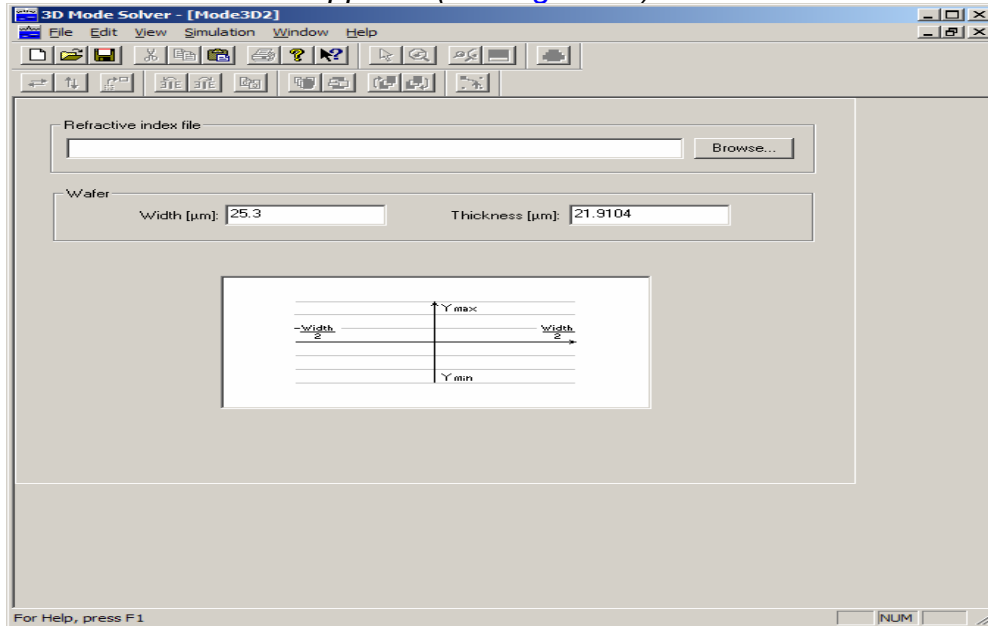

Figure 12 3D Mode Solver
- 1 To open Independent 3D Mode Solver, from the **Start** menu, select **Programs > Optiwave Software > OptiFDTD 6.0 > Tools > Mode 3D**. *3D Mode solver appears (see Figure 12)*